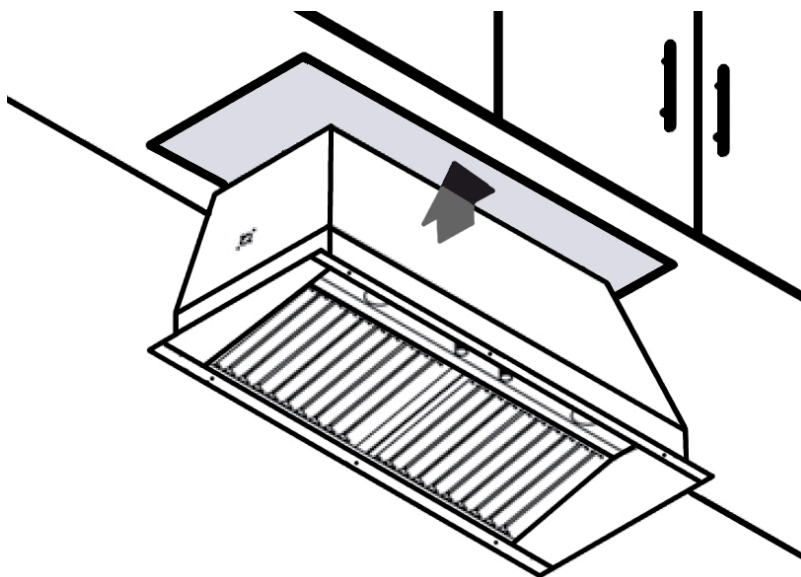

FIGURE 6: INSERT UP INTO CUT-OUT
1. Lift the range hood insert up into the cut-out under the cabinet or hood structure (SEE FIGURE 6)